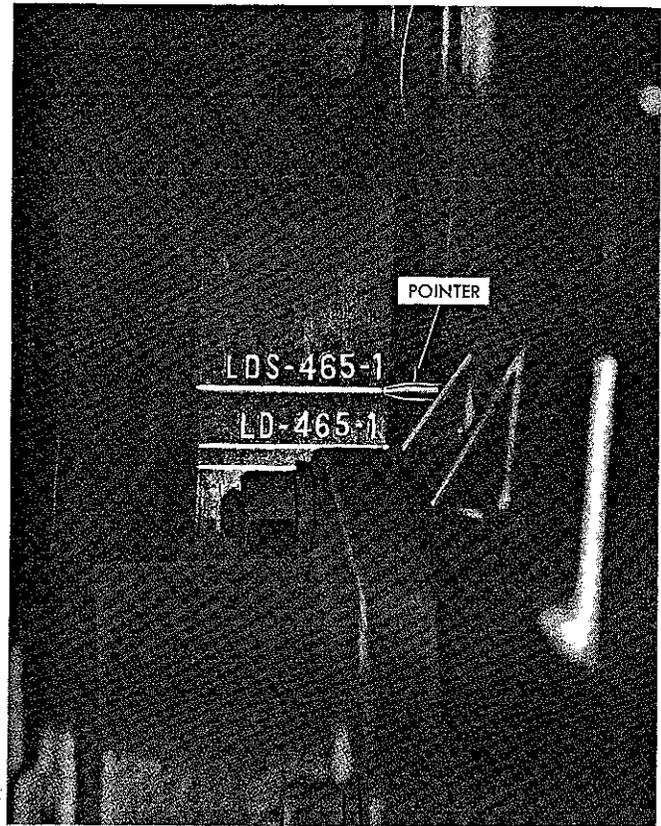

Figure 52
- (3) Rotate the crankshaft in its direction of rotation (clockwise as viewed from front of engine), and align the crankshaft damper timing mark for LDS-465-1 engine to timing pointer, Figure 52.
- (4) With the LDS-465-1 injection pump timing mark on the crankshaft damper aligned to the timing pointer, check to see if the timing mark on the advance unit hub is aligned to its timing pointer,